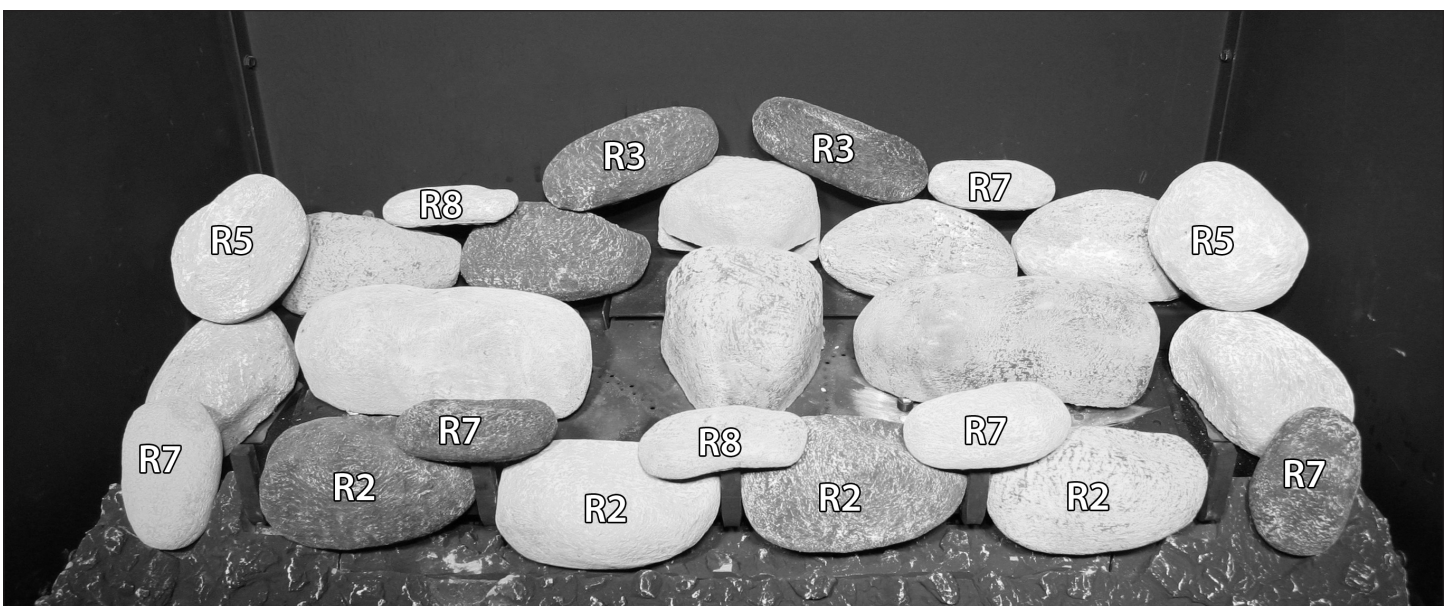

Figure 9.5, Completed Installation
7. Place the rest of the rocks as shown in Figure 9.5. Distribute additional rockwool embers once completed.